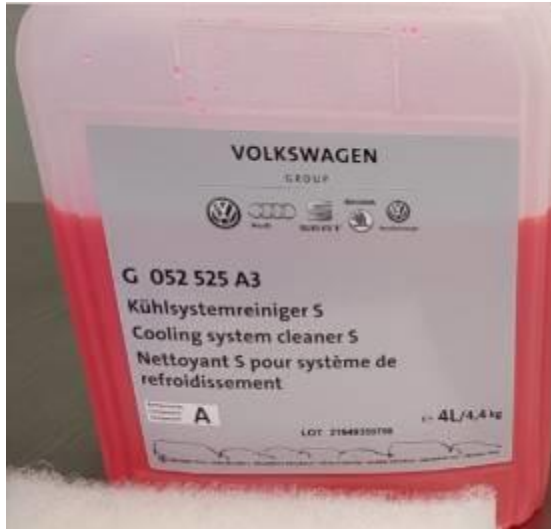

Figure 9. Cooling system cleaner 'S'.
9. Add 3.0 liters of cooling system cleaner 'S' and the balance of the fill with coolant (Figure 9). Perform bleeding procedure. Run the engine for 90 minutes with this mixture with the cabin heating on full hot and HI fan. If equipped, also set the rear HVAC unit to full hot and HI fan.